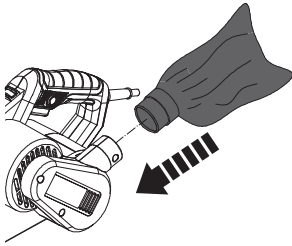

Fig. 7
1. Align the dust bag connector (14a) with the dust extraction outlet (6).
2. Attach the dust bag (14) onto the outlet (6) all the way to the stop (Fig. 7).